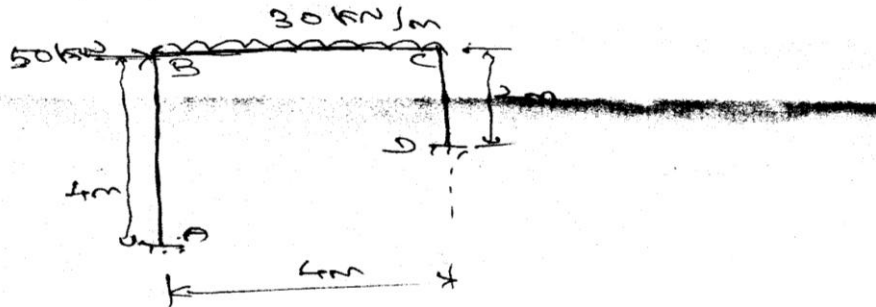

Figure-4.
4. Determine the vertical and horizontal displacement at the free end D in the frame shown in figure-4. Take $EI = 12 \times 10^{13} \text{ N}\cdot\text{mm}^2$. Use Castigliano's theorem.